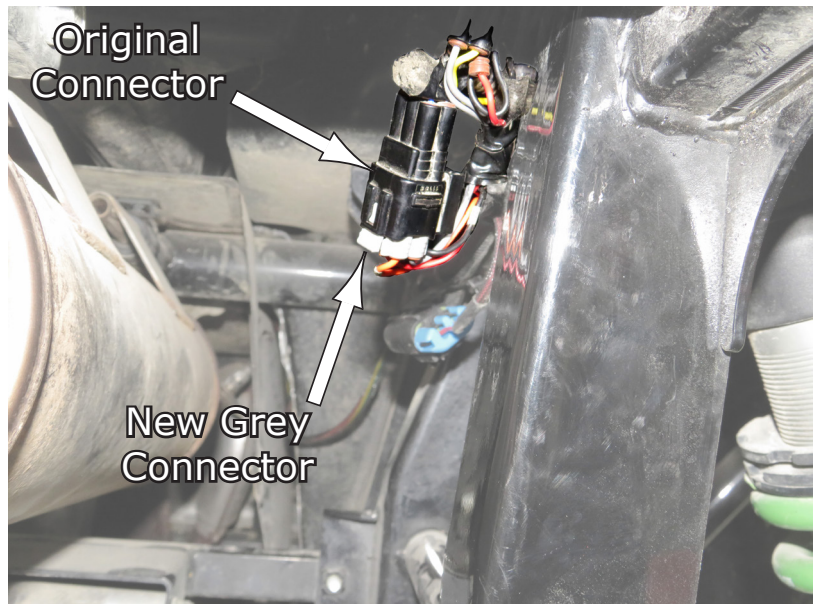

Fig.16
15. After getting the harness thru the Seat/Console path, pull it back a little and notice up on the frame you'll see the original harness connector as shown in **Fig.16**.
Now Unplug that connector and insert the Grey Male end of next closest cable pair of your New Harness into the Female end of the same connector. These are shown plugged together in **Fig.16**.